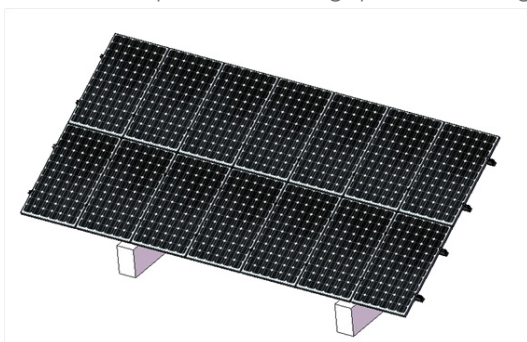

Fig.33
5.3.4 Now the installation is completed as shown in Fig.33. Please recheck all Bolts and fasten them tightly according to the recommended torque. The PV Modules should be aligned correctly with 18mm gaps when using End and Inter Clamps and 20mm gaps when using Universal Clamps.